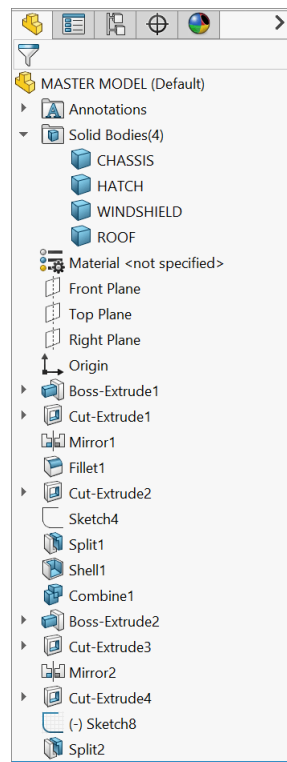

Fig. 68
- Step 3. **Rename bodies CHASSIS** , **HATCH** , **WINDSHIELD**  and **ROOF** , **Fig. 68**. To rename, expand **Solid Bodies**  folder in the Feature Manager. Slowly click twice over Split2(1)  and key-in **CHASSIS** or use the F2 key. Repeat and rename, **HATCH, WINDSHIELD and ROOF**.